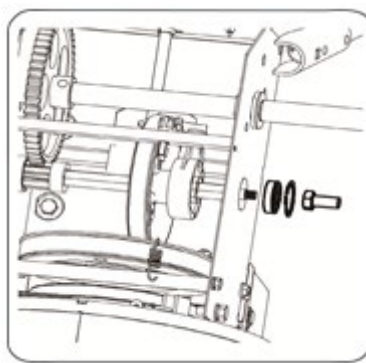

Fig. 32
3. Carefully remove the hex nut and washer securing the axle to the snow blower frame and tap the end of the axle lightly to loosen the ball bearing from the right side of the frame. See figure 32